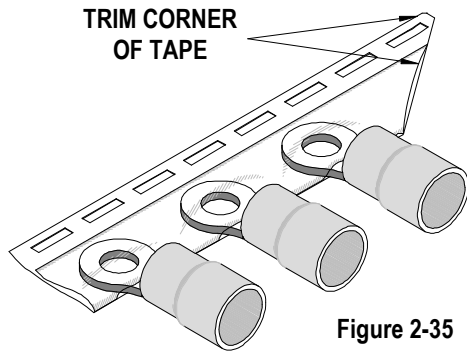

Figure 2-35
4. The tape will be easier to "start" in the track if the corner of the tape is trimmed as shown in Figure 2-35.